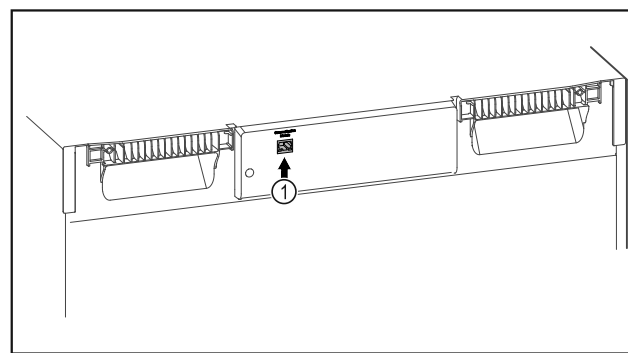

Fig. 153
- ☐ SmartModule Fig. 153 (1) is in use.